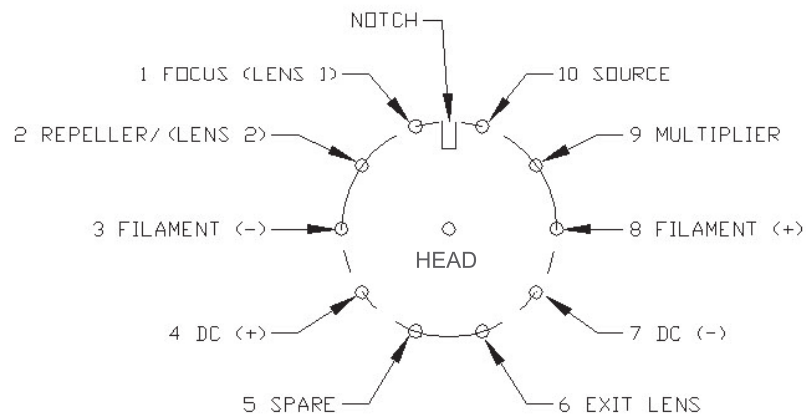

Figure 5-1.
- The check should be performed on the pins on the atmosphere side of the unit (Figure 5-1).
Refer to Figures 5-1 and 5-2.
1. Install the focus element first so that its long wire engages the correct barrel connector at #1 (Figure 5-1). The back surface of the focus plate should rest against the ceramic collar of the mass filter. Tighten the barrel connector set screw snugly but do not overtighten.
2. Install the source so that its plate is spaced about 0.1” above the focus plate with its long wire in the correct barrel connector at #10 (Figure 5-1). Tighten the connection.
3. Install the repeller so that its plate is spaced about 0.1” above the source grid with its long wire in the correct barrel connector #2 (Figure 5-1). Tighten the connection.